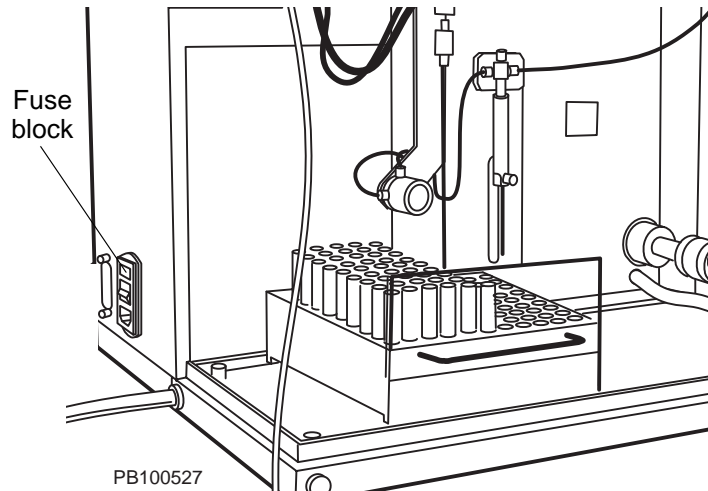

Figure 9-19 Replacing the AFC 2000 Fuses
5. Pry out the fuse block using a small flat-blade screwdriver (Figure 9-19).